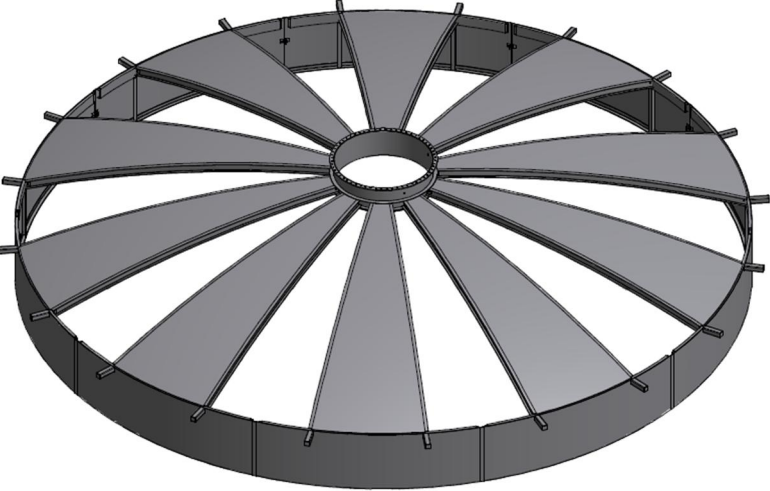

Figure 2.9 Full Ring Development
3. Continue this process until a full ring is developed (Figure 2.9)